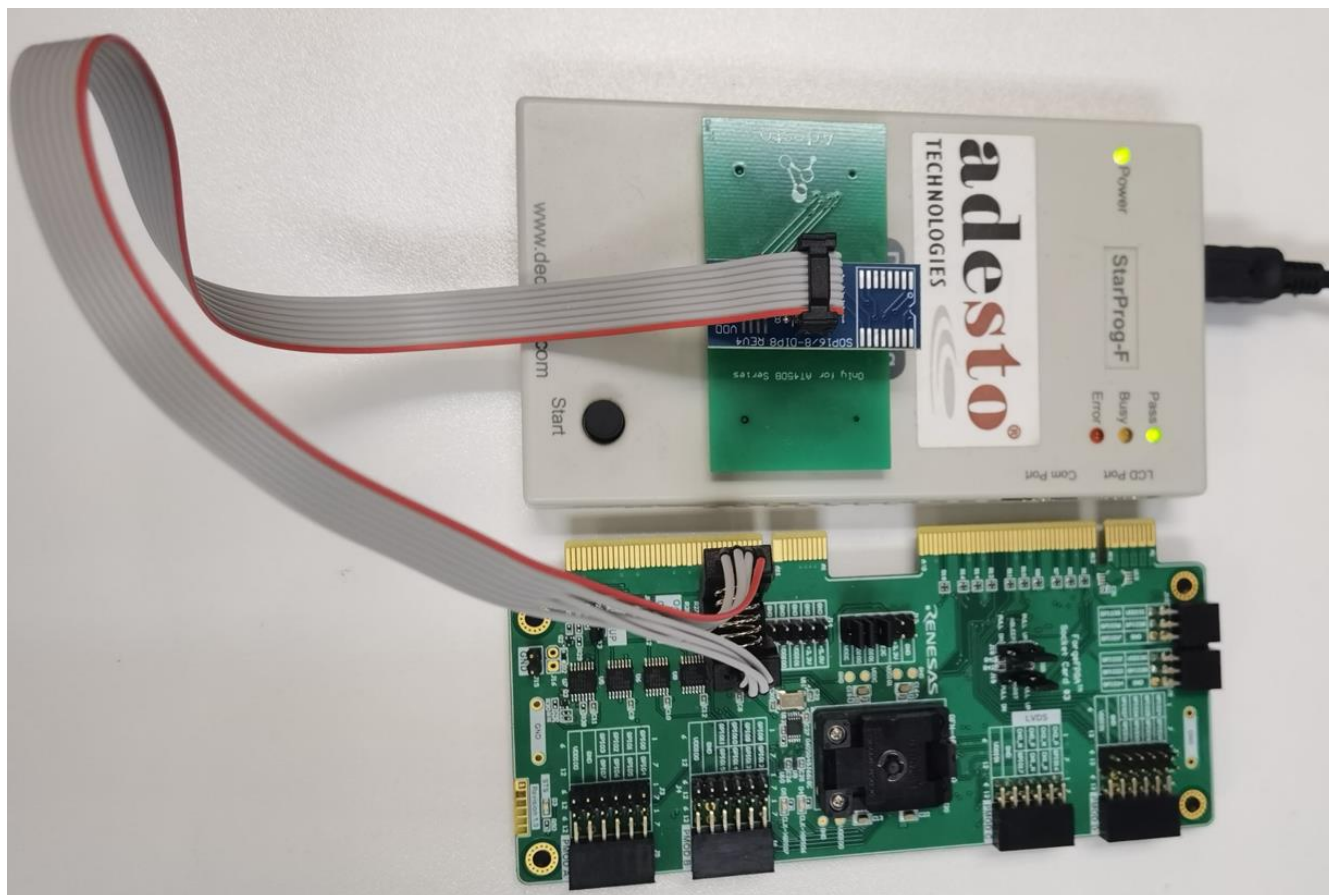

Figure 20. Connect the Flash Programmer to the Onboard Flash
1. Use a clamp to securely connect the Flash programmer to the onboard Flash memory. Ensure all contacts are properly aligned, and the connection is stable (Figure 20).
2. Note that the red wire in this clamp indicates Flash chip Pin 1, Figure 20 shows the connection with Socket Adapter Card #3, and the connection for Socket Adapter Card #1 is identical.